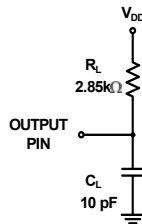

FIGURE 2. EQUIVALENT LOAD CIRCUIT
- During characterization, $t_{DISABLE}$ is measured from the release point with a 10pF load (see Figure 2 on page 8) and the equivalent timing using the AD7450 loading (50pF) is calculated.